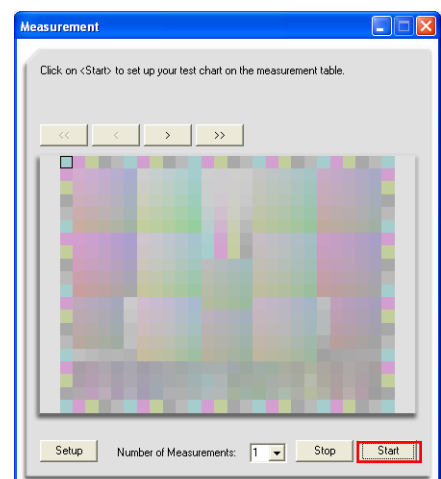

Fig.10 Measurement
5. The spectrophotometer starts the calibrating itself automatically and then [Measurement] menu in Fig.10 will appear.